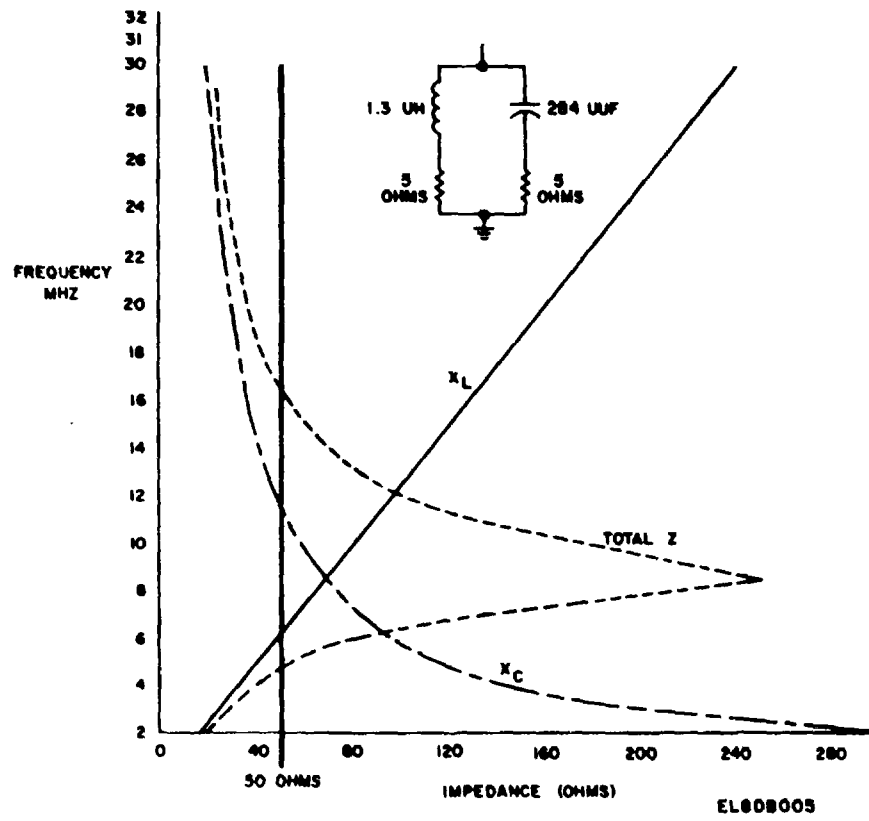

Figure 2-7. Frequency Band Information Circuit Diagram.
2-5. Frequency Band Information Circuit (fig. 2-7)
a. The frequency band information circuit (fig. 2-7) consists of a parallel-tuned network that resonates at approximately 8.5 MHz and is used as a transmitter dummy load for a short time after RF power is applied. The dummy load displays a complex impedance above or below its resonant frequency. When the frequency of the receiver-transmitter is above or below 8.5 MHz, discriminator A8 uses the band information circuit to develop dc error voltages that are applied to the servo-amplifier and used to set the band sense circuits.